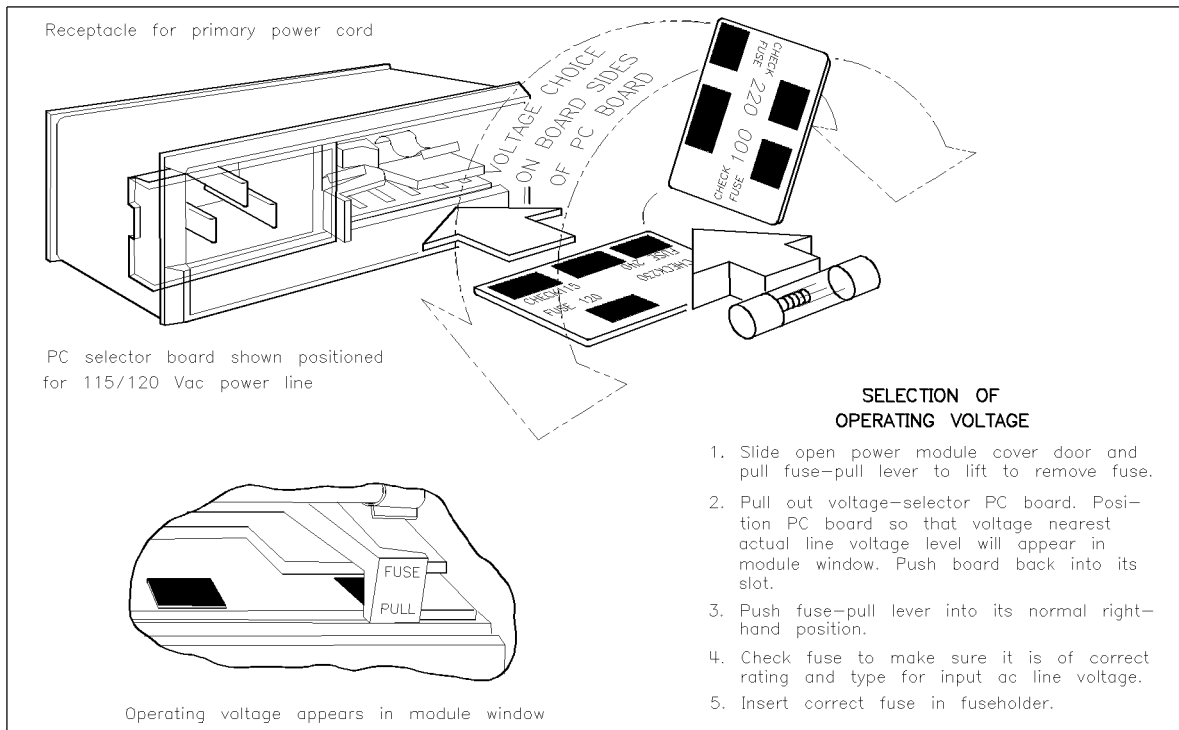

Figure 2-3. Setting the Voltage Selector Switch and Checking the Fuse
Both the voltage selection card and the fuse are located in the AC power module on the rear panel of the analyzer (see Figure 2-3). For continued protection against fire hazard, replace line fuse only with the same type and ratings. The use of other fuses or materials is prohibited. To select the line voltage and fuse (see chapter 1 for fuse part numbers):
2. Using the values in Table 2-2, follow the instructions in Figure 2-3.